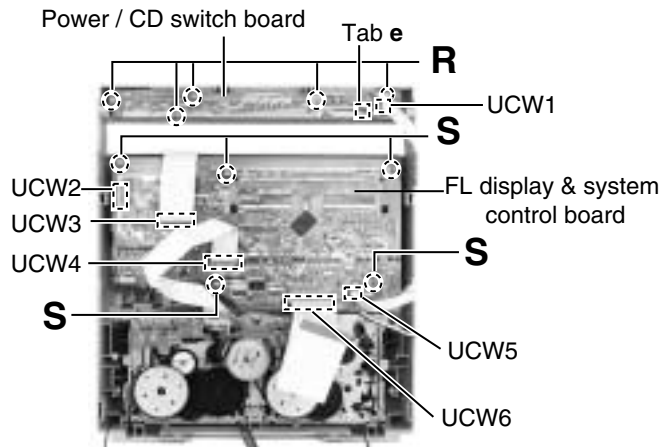

Fig.23
■Removing the power / CD switch board (See Fig.23)
■Removing the FL display & system control board (See Fig.23 and 24)